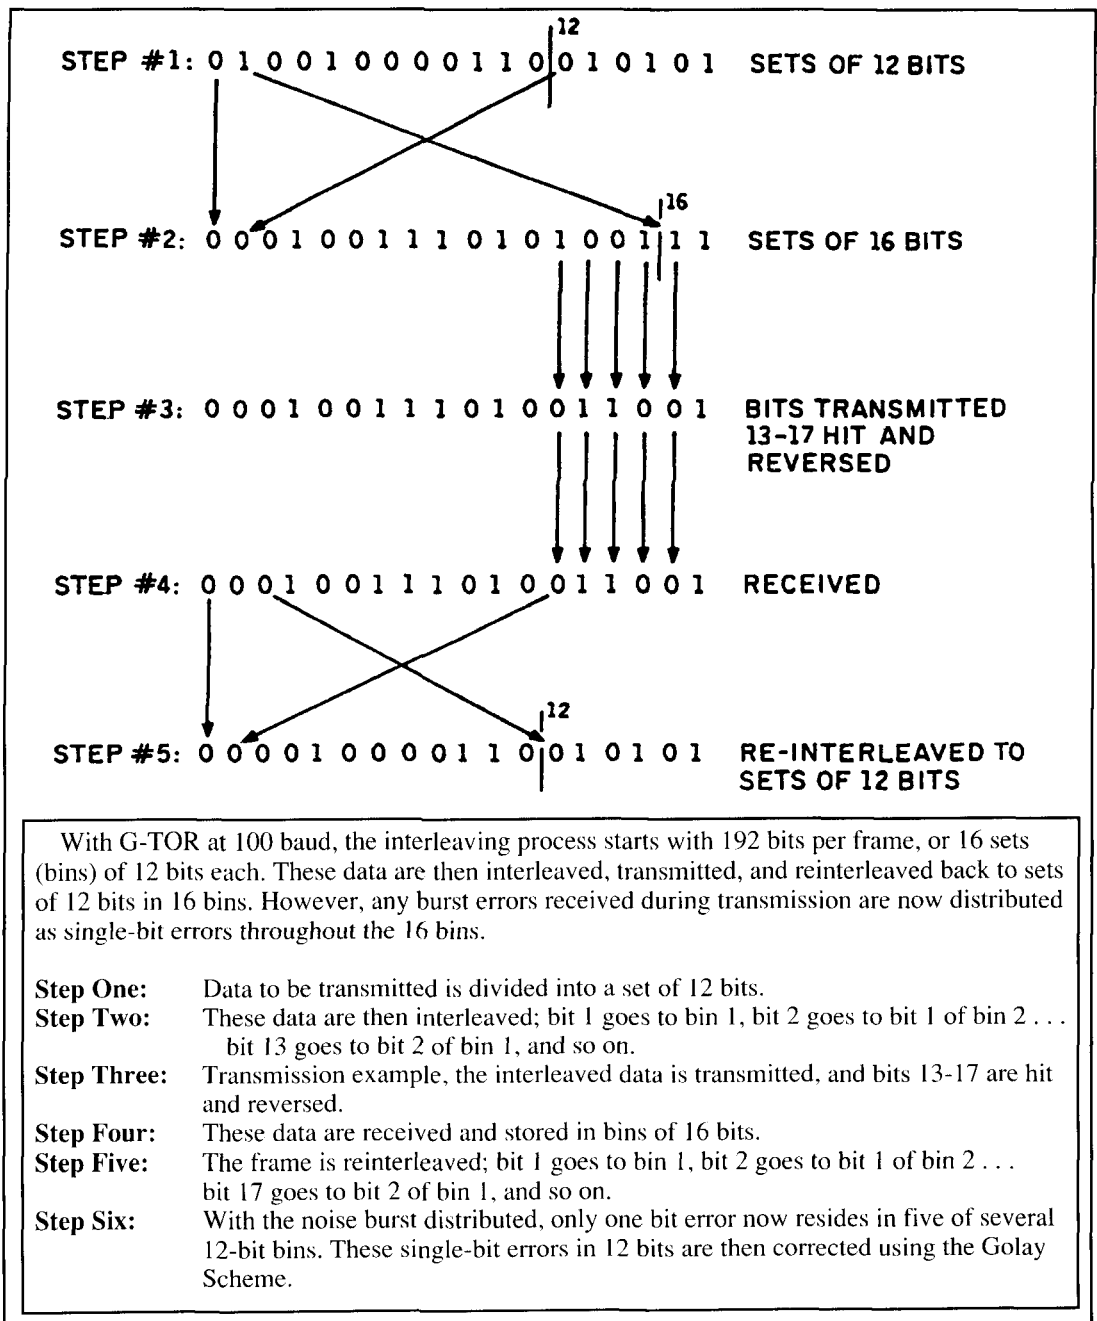

Figure 2. G-TOR interleaving at 100 baud
code for HF are the Golay and the Reed Solomon (RS) codes. G-TOR, named for the Golay code, is based on the Golay error correction scheme. Both codes are classified as block codes; that is, a fixed number of parity bits are coded for each fixed set of data bits. These codes correct errors well when the errors are random; for this reason, it's necessary to interleave the data frames for HF systems before and after transmission. By doing so, the bursty, multiple-bit hits during reception are made to look random. The interleaving process is outlined in **Figure 2**.